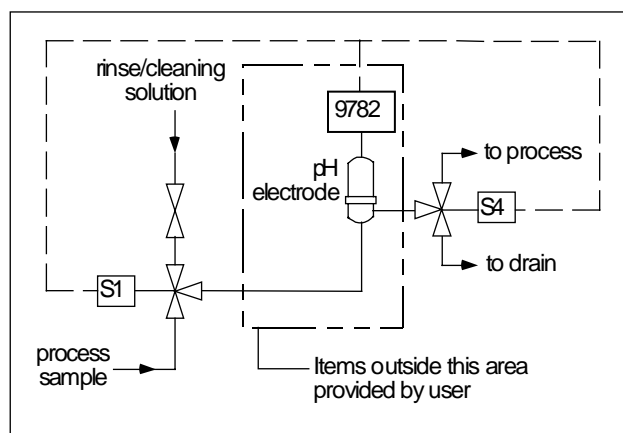

Figure 7-1 Automatic Electrode Wash Setup
- 2 Relay 1 activates 3-way solenoid valve S1 (see Figure 7-1) to direct rinsing fluid to the electrodes for the configured rinse duration (1 to 1999 seconds). If the measured sample is normally returned to the process but quantities of rinsing fluid cannot be tolerated there, use an additional 3-way solenoid valve S4. It is activated simultaneously with S1 to divert the discharge to drain.
Make the process connections as shown in Figure 7-1. Be sure that valves and fittings (S1) have sufficient pressure ratings to withstand pressure peaks which will occur when process flow is blocked.